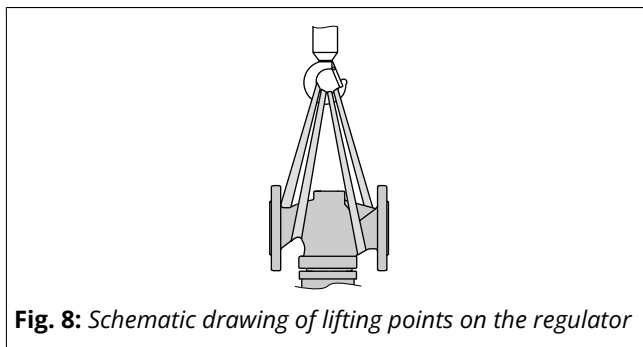

Fig. 8: Schematic drawing of lifting points on the regulator
- ⇒ Use a hook with safety latch to secure the slings from slipping off the hook during lifting and transporting (see Fig. 8).
1. Attach one sling to each flange of the body and to the rigging equipment (e.g. hook) of the crane or forklift (see Fig. 8).